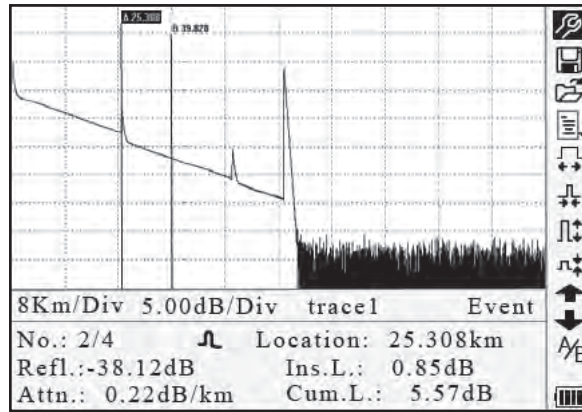
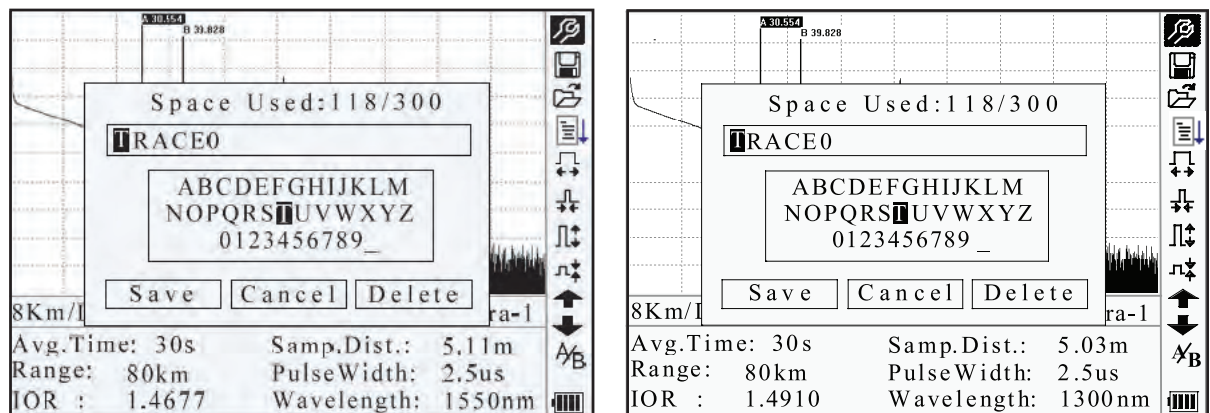
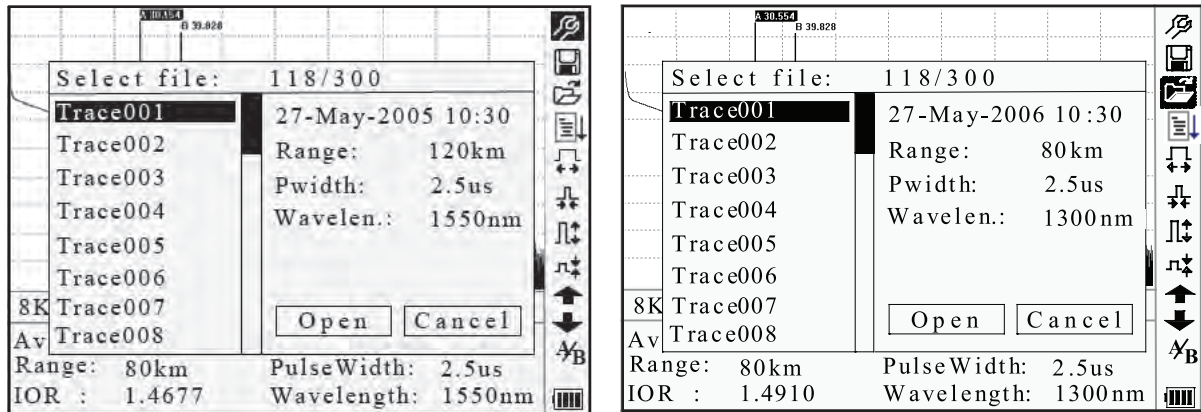

Figure 4-4. Trace Measurement
Figure 4-6. Save a Trace
Figure 4-7. Browse Saved Traces
Note: After a certain period of time, the trace displays on the GUI. The trace in the figure below is a trace during measurement, which will be refreshed for every certain period of time to demonstrate the whole process in realtime. But at the end of measurement the trace will be complete, as shown in Figure 4-4.
Under GUI (Figure 4-4) press **↩** and the items in the information window will display in this order: measurement parameters g analysis information g events list g marker A/B information g fiber information g measurement parameters.
Under GUI (Figure 4-4) press **↩** until the events list information appears in the information window.
Under GUI (Figure 4-4) use **▲** and **▼** to highlight A/B, and then press **Enter** to switch between marker A/B.
Under GUI (Figure 4-4) press **↩** to switch the information window to marker A/B information.
1. Under GUI (Figure 4-4) use **▲** and **▼** to highlight ⇄, and then press **Enter** to zoom out the trace horizontally.
Under GUI (Figure 4-4) use **▲** and **▼** to highlight ⇄, and then press **Enter** to zoom in the trace horizontally.
1. Under GUI (Figure 4-4) use ▲ and ▼ to highlight ⏴, and then press **Enter** to zoom out the trace vertically.
Under GUI (Figure 4-4) use ▲ and ▼ to highlight ⏵, and then press **Enter** to zoom in the trace vertically.
1. Under GUI (Figure 4-4) use ▲ and ▼ to highlight , and then press **Enter** to enter (Figure 4-6).
1. Under GUI (Figure 4-4) use ▲ and ▼ to highlight , and then press **Enter** to confirm (Figure 4-7).